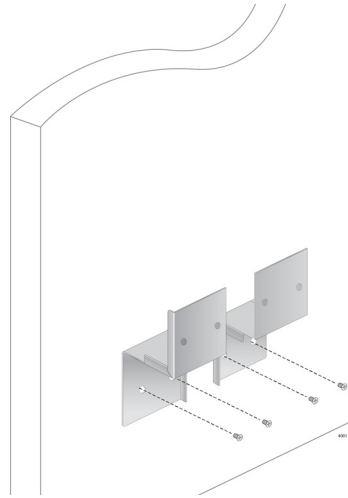

Figure 20. Driving the Screws through the Holes
8. Position brackets on the wall and drive screws through the holes to attach the brackets on the wall. See Figure 20.